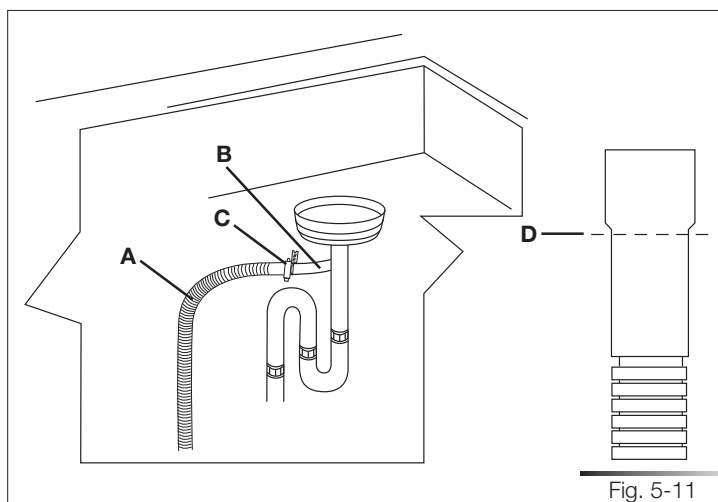

Fig. 5-11
1. Connect the dishwasher drain hose (ref. A fig. 5-11) to the “T” union (ref. B fig. 5-11) of the drain circuit using a 38 to 50 mm (1-1/2 to 2”) screw clamp* (ref. C fig. 5-11); if necessary, cut the end of the dishwasher drain hose (ref. D fig. 5-11) (do not cut the corrugated section).